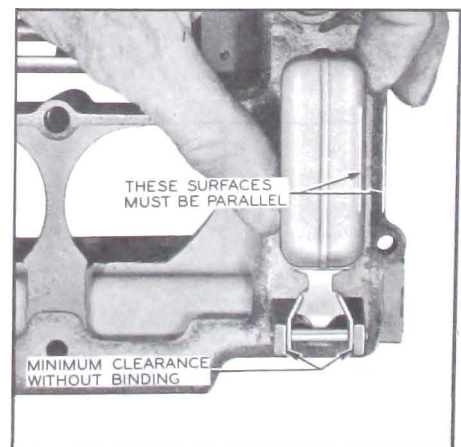

Figure 3-45—Float Alignment
9. Align Float. Sight down side of float to determine if side is parallel with outer edge of air horn. If adjustment is necessary, bend float lever by applying pressure to end of float with fingers while supporting float lever with thumb. See Figure 3-45.